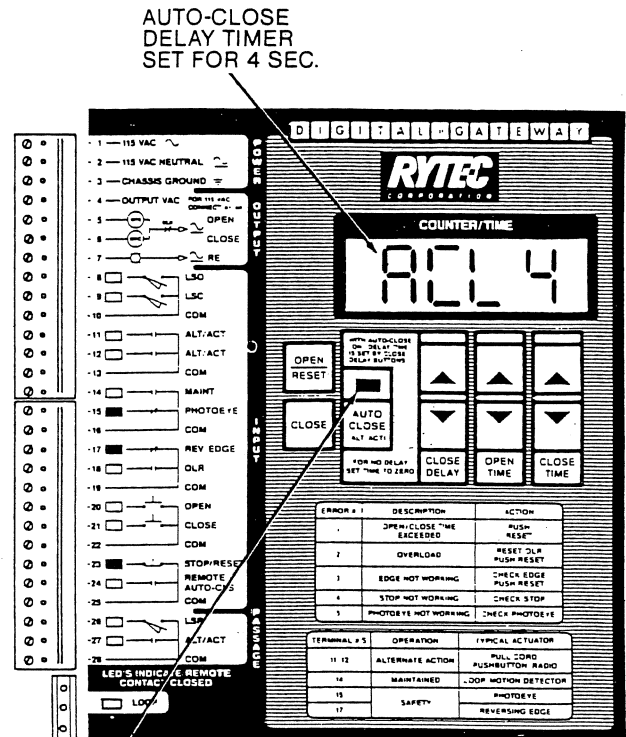

Figure 10.
4.1.2 With the Auto-Close function "ON," the Close Delay buttons are used to set the "ACL" timer. See Figure 10.